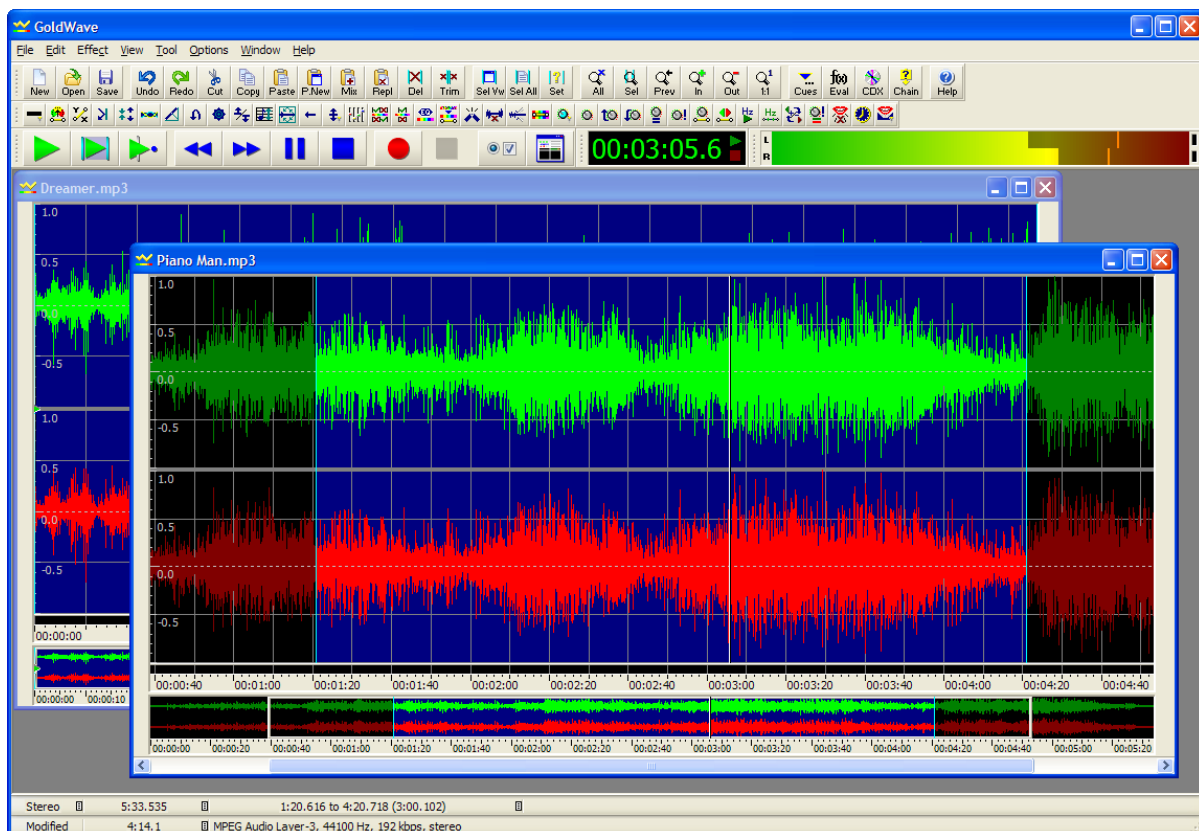

Figure 1 A sound editor (source: <http://www.goldwave.com>)
A sound editor is a software tool for recording, visualizing, editing, and conversions of digital sound waves. Editing involves various forms of manipulation (*Figure 1*), e.g.:
1. That the user interface will not be graphical (as in the example of *Figure 1*). Instead the user interface will be text-based. See *Figure 2*.